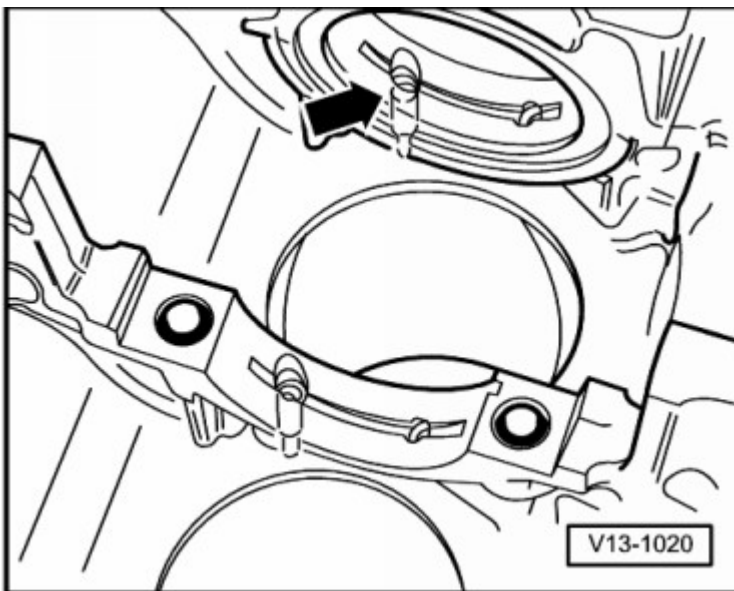

Fig. 6: Identifying Oil Spray Jet Application Area
- Removal and installation, refer to **Fig. 6**